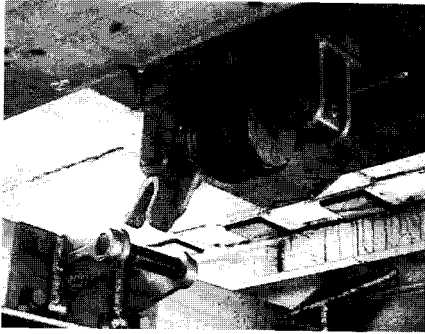

Fig. 52-1
- Have the correct adjustment of the body blocking device checked (fig. 52-1 & 52-2) (optional equipment depending on type of vehicle).